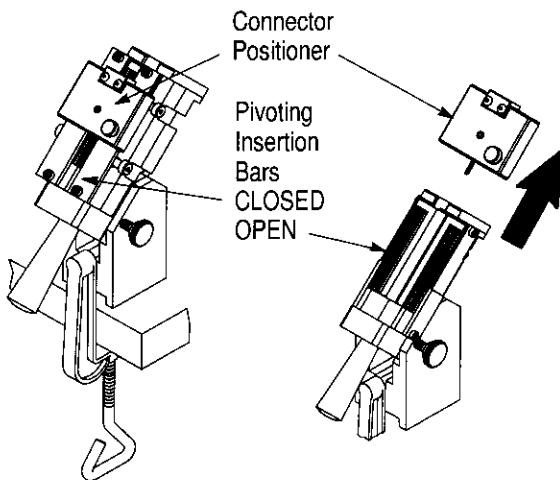

Figure 5
To set up for the process, the lower tooling assembly is positioned in the bench mount and clamp as shown in Figure 5. The connector positioner is then removed from the lower tooling assembly (loosen its thumbscrew and pull positioner in direction shown in Figure 5). This allows the pivoting insertion bars to pivot open, exposing the comb slots used for lacing the wire.
1. Remove the connector positioner and open the pivoting insertion bars. See Figure 5.